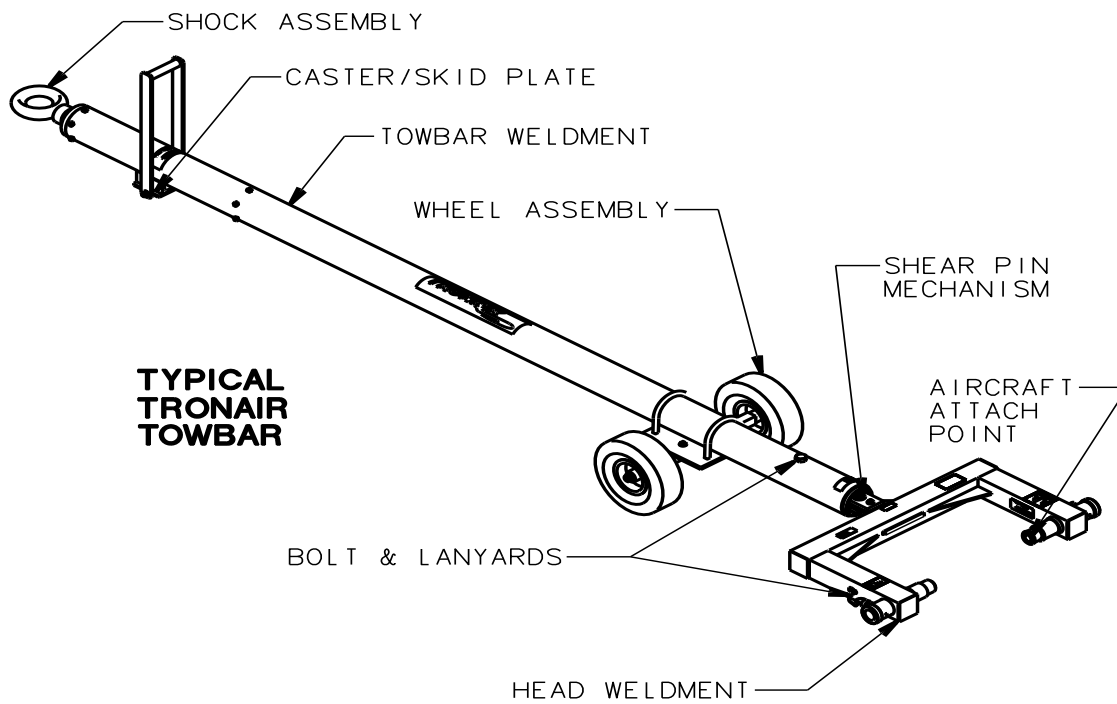

FIGURE 1
**BEFORE USING TOWBAR, COMPLETE THE FOLLOWING CHECKLISTS:**Reference *Figures 1 & 2* on Page 2.**TOWBAR:****Area of Towbar:**